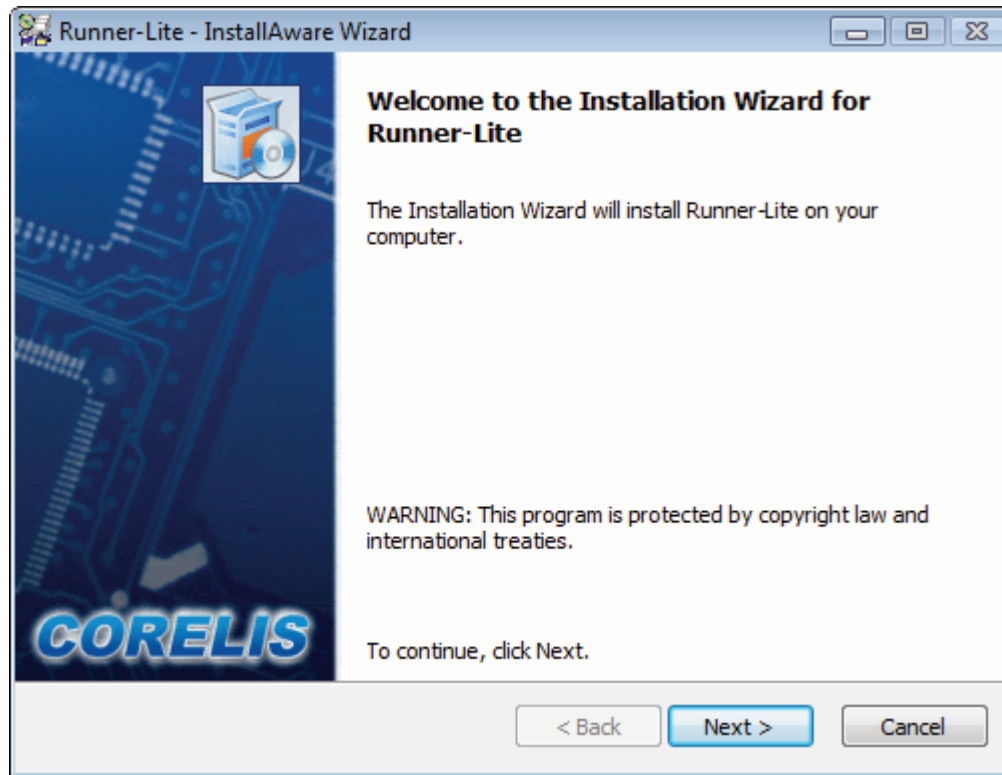

Figure 2-3. Welcome Screen of the Runner-Lite Installer
4. The Runner-Lite installer **Welcome** screen shown in Figure 2-3 will appear. Click the **Next** button to continue to the **License Agreement** screen.